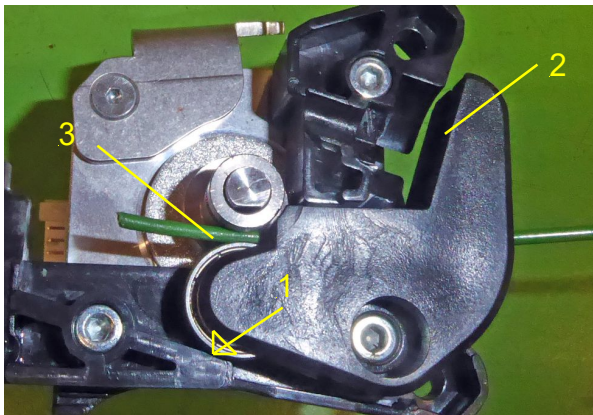

Fig. 1: Ball Bearing conflict to wall !
- 2: After a long investigation it came out, that the ball bearing touches the wall of the bracket (picture 76), even without mounted spring, pressing the filament by the ball bearing very hard to the extruder drive wheel. See Fig. 1!